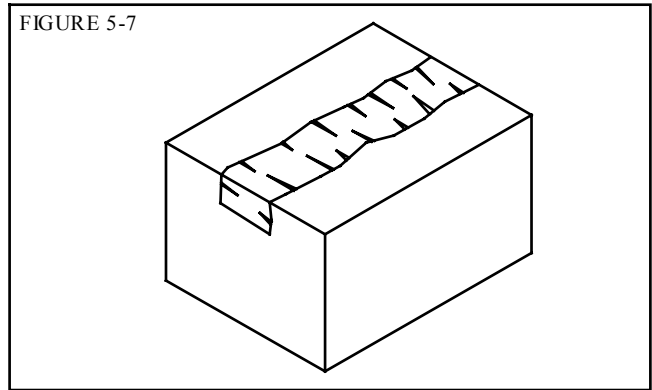

FIGURE 5-7
1. When the tape is applied too loosely on the carton, it may not cut or will wrinkle as it is being applied. [Fig 5-7]